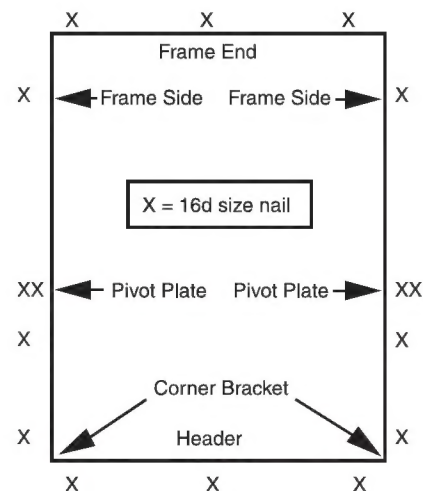

Figure 7
- Be certain to install nails or ¼" diameter lag screws in the holes provided in the hardware pivot plates and in each corner next to the corner bracket as shown in Figure 7. Drill pilot holes to keep ladder frame from splitting.
- Once the folding aluminum attic ladder is positioned as desired, final nailing should be done through the folding aluminum attic ladder frame (see Figure 7). Always drill pilot holes to keep from splitting the frame boards.